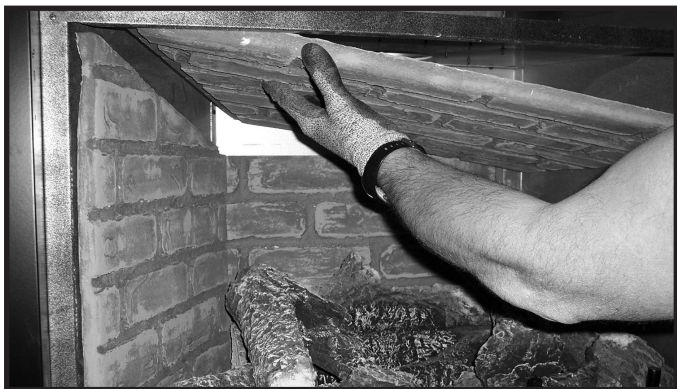

Figure 4.15 Remove Top Refractory
2. Remove top by gently lowering toward side just removed and gently twisting out. See Figure 4.15.